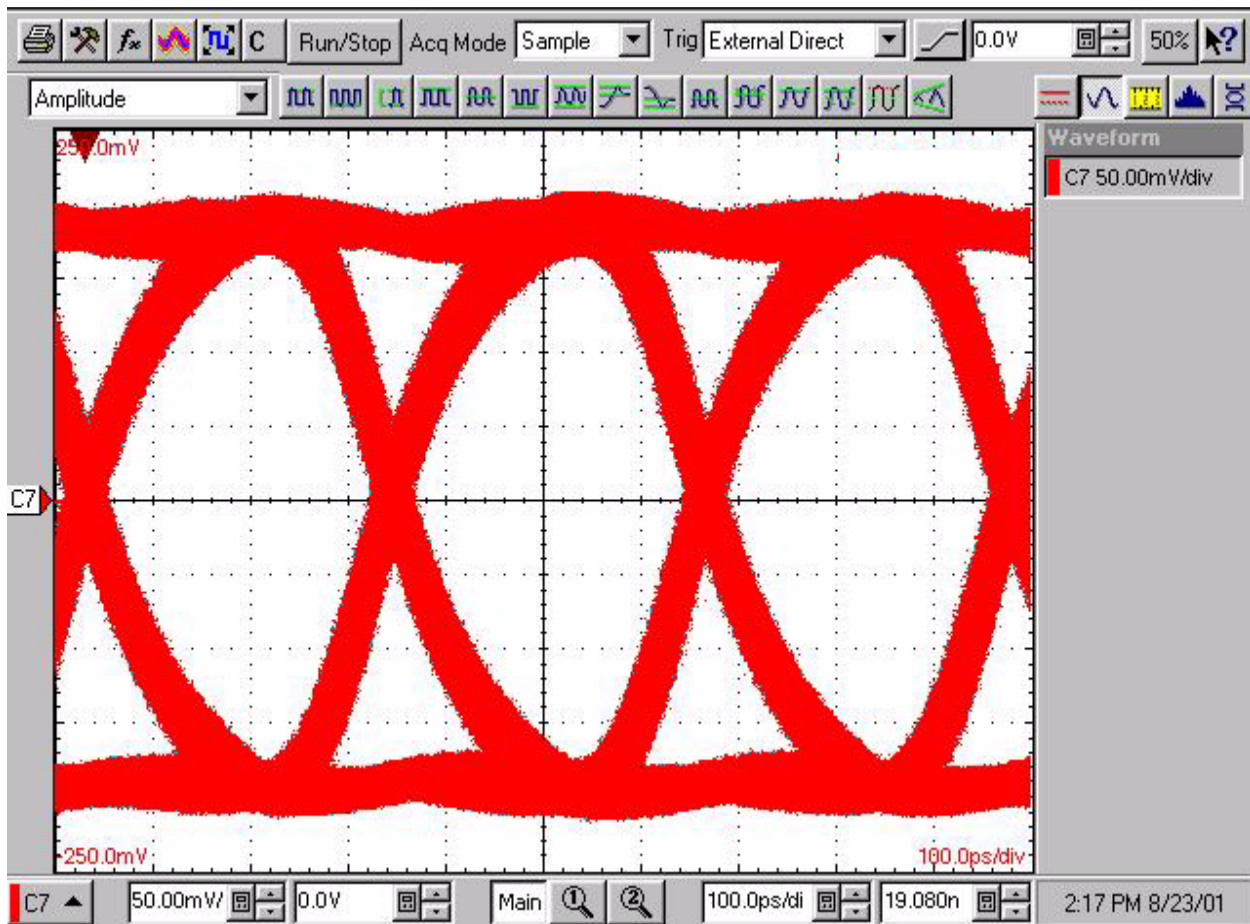

Figure 3-2. MC92610 Data-Eye Using Recommended Test Setup
6. Observe XMIT\_x\_P or XMIT\_x\_N. The transmitter should now be outputting random data. Setting the digital sampling oscilloscope to infinite persistence mode will display a data-eye. An example of a data-eye is shown in Figure 3-2.